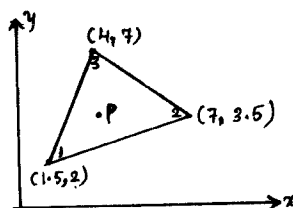

Fig Q5(b)
- b. Determine the shape functions (N_1, N_2, N_3) for a triangular element shown in Fig Q5(b). The X co-ordinate of interior point P is 3.85 and Y co-ordinate of interior point P is 4.8. (06 Marks)